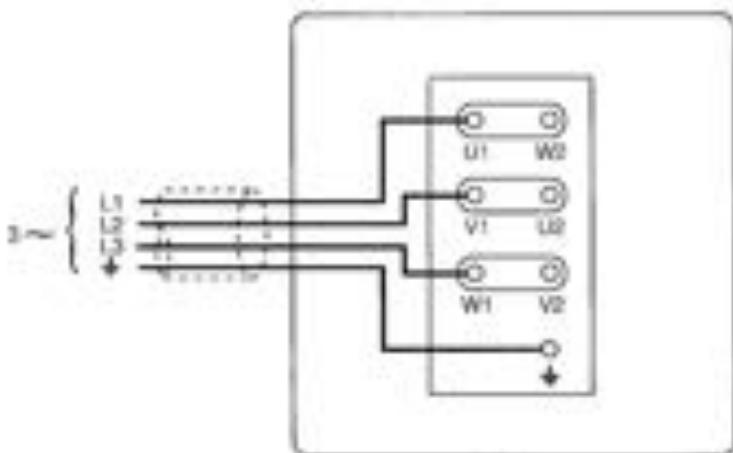

Figure 4 -Electrical supply connection, three-phase motors, 200 V 50 Hz, 200-210 V 60 Hz,
2. Check your electrical supply voltage and frequency. If necessary, configure the motor to operate with your electrical supply (see Figures 4 and 5).
6. Connect the cables to the terminals as shown in Figures 4 and 5.
- Remove the terminal-box cover and swap wires L1 and L3 (see Figures 4 and 5).